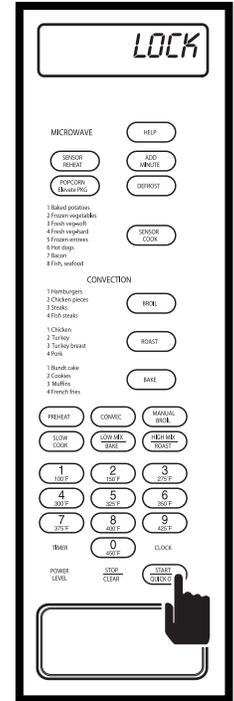

Figure 3-62.
3. For this example, the QUICK ON/START key is pressed, initiating the Child Lock Feature. Display will then show time of day. (See Figure 3-62) With the Child Lock Feature on, all keys on the control panel, except the HELP key, will be disabled. If any of the keys are pressed, except the HELP key, “LOCK” will flash on the display.